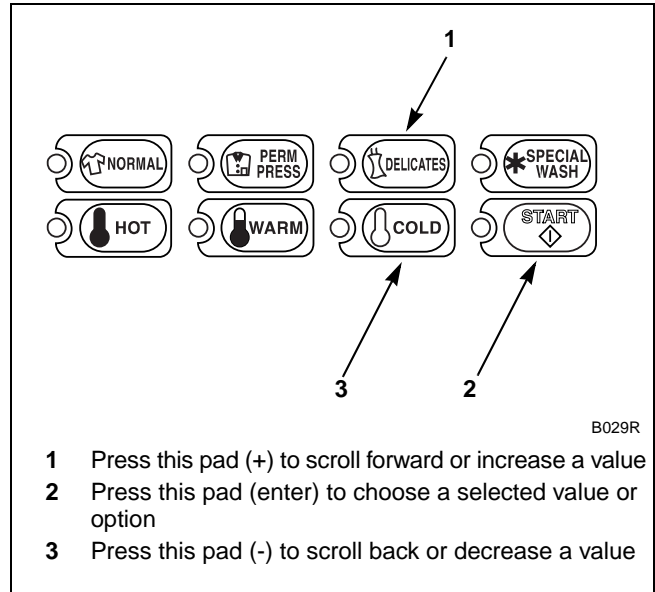

Figure 155
5. Press the DELICATES (+) or the COLD (-) keypad to increase or decrease the current number of minutes displayed in the VFD to the desired number of minutes. Refer to *Figure 155*.
**NOTE: The Permanent Press Spin Extract Time can be set from zero (0) to 15 minutes.**